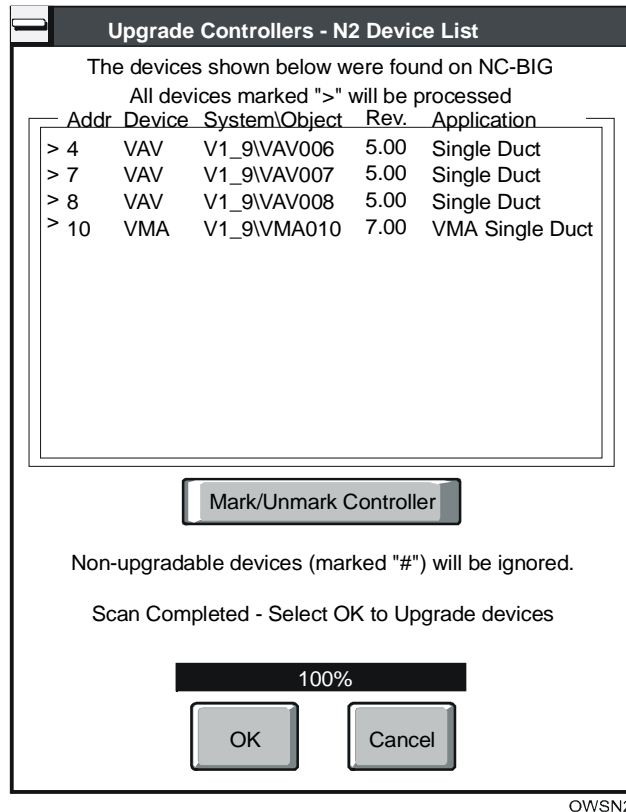

Figure 16-9: OWS - N2 Device List Dialog Box
7. Click OK when you are ready to begin upgrading. The dialog box in Figure 16-9 appears.